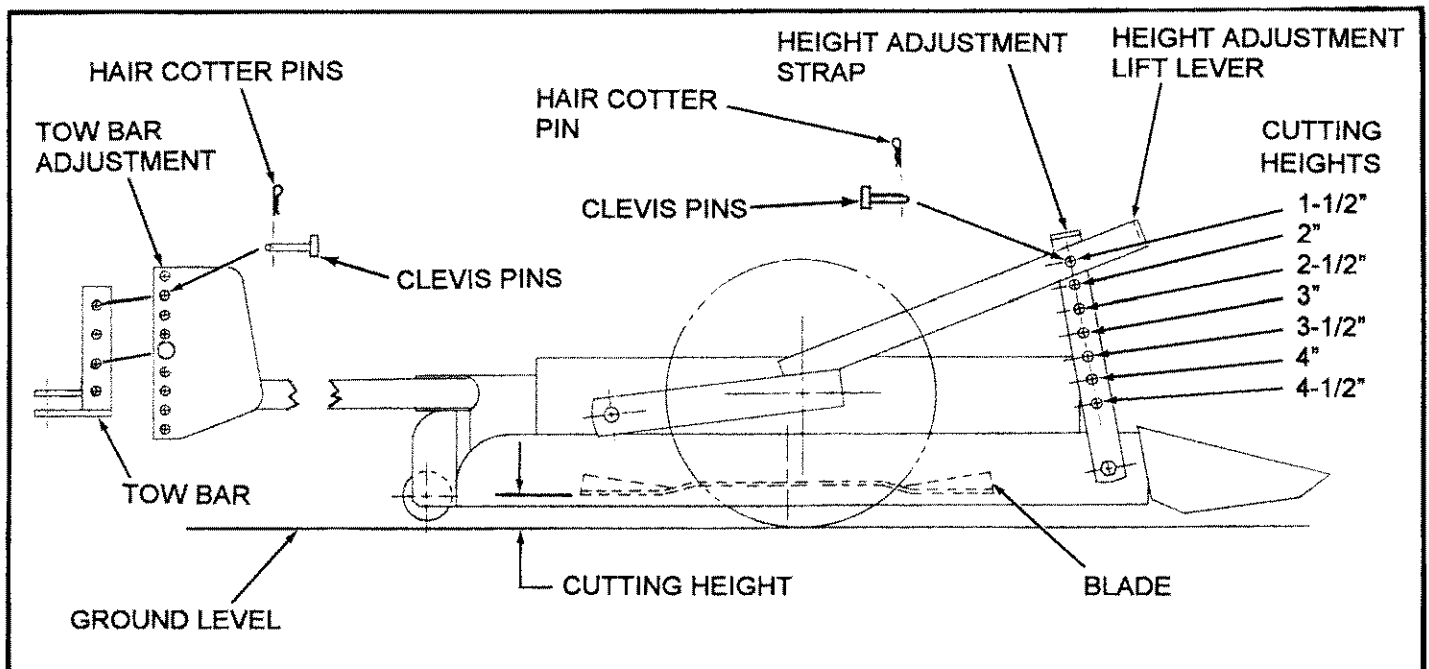

FIG. 4
- To adjust the mower cutting height remove hair cotter pin from clevis pin in the height adjustment strap. (See Fig. 4)
- Remove two hair cotter pins from two clevis pins in the tow bar adjustment. (See Fig. 4)